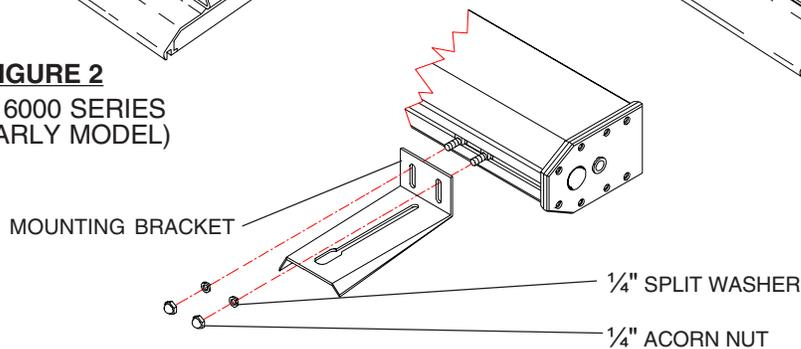

FIGURE 4
- 4) Turn the lightbar right side up and attach the ArrowStik to its mounting bracket as shown in Figure 4. Leave the mounting bolts loose so the ArrowStik can be moved from side to side.
- 8) Loosely mount the ArrowStik to the bracket as shown in Figure 4.